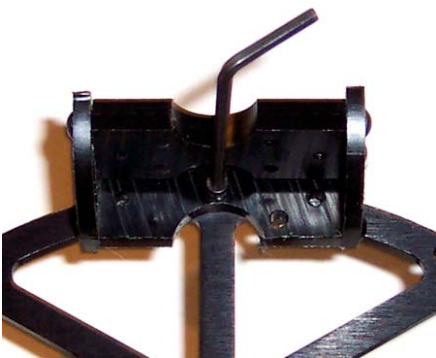

Figure 18.
Using a Short Screw (14) connect the Adjustable Bracket (18) to the Mouse Chassis (6) as Shown in Figure 18.